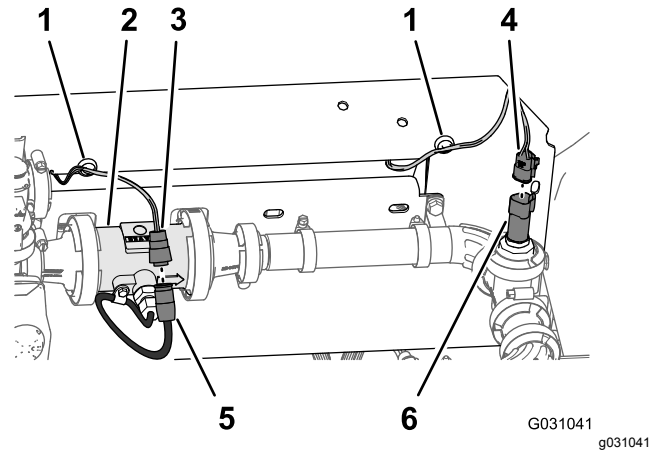

Figure 108
1. Route the connectors of the 218.4 cm (86 inches) and 75.5 cm (31 inches) wire harness branches labeled **Flow Meter** and labeled **Pressure Transducer** rearward of the manifold mount (Figure 108).
2. Connect the 3-socket connector of the 75.5 cm (31 inches) wire harness branch for the flow meter (not labeled) into the 3-pin connector of the harness of the flow meter (Figure 108).
3. Connect the 3-socket connector of the 218.4 cm (86 inches) wire harness branch for the labeled **Pressure Transducer** into the 3-pin connector of the pressure transducer (Figure 108).
4. Adhere the magnet-harness anchors for the flow meter and the pressure transducer onto the surface of the manifold mount (Figure 108).